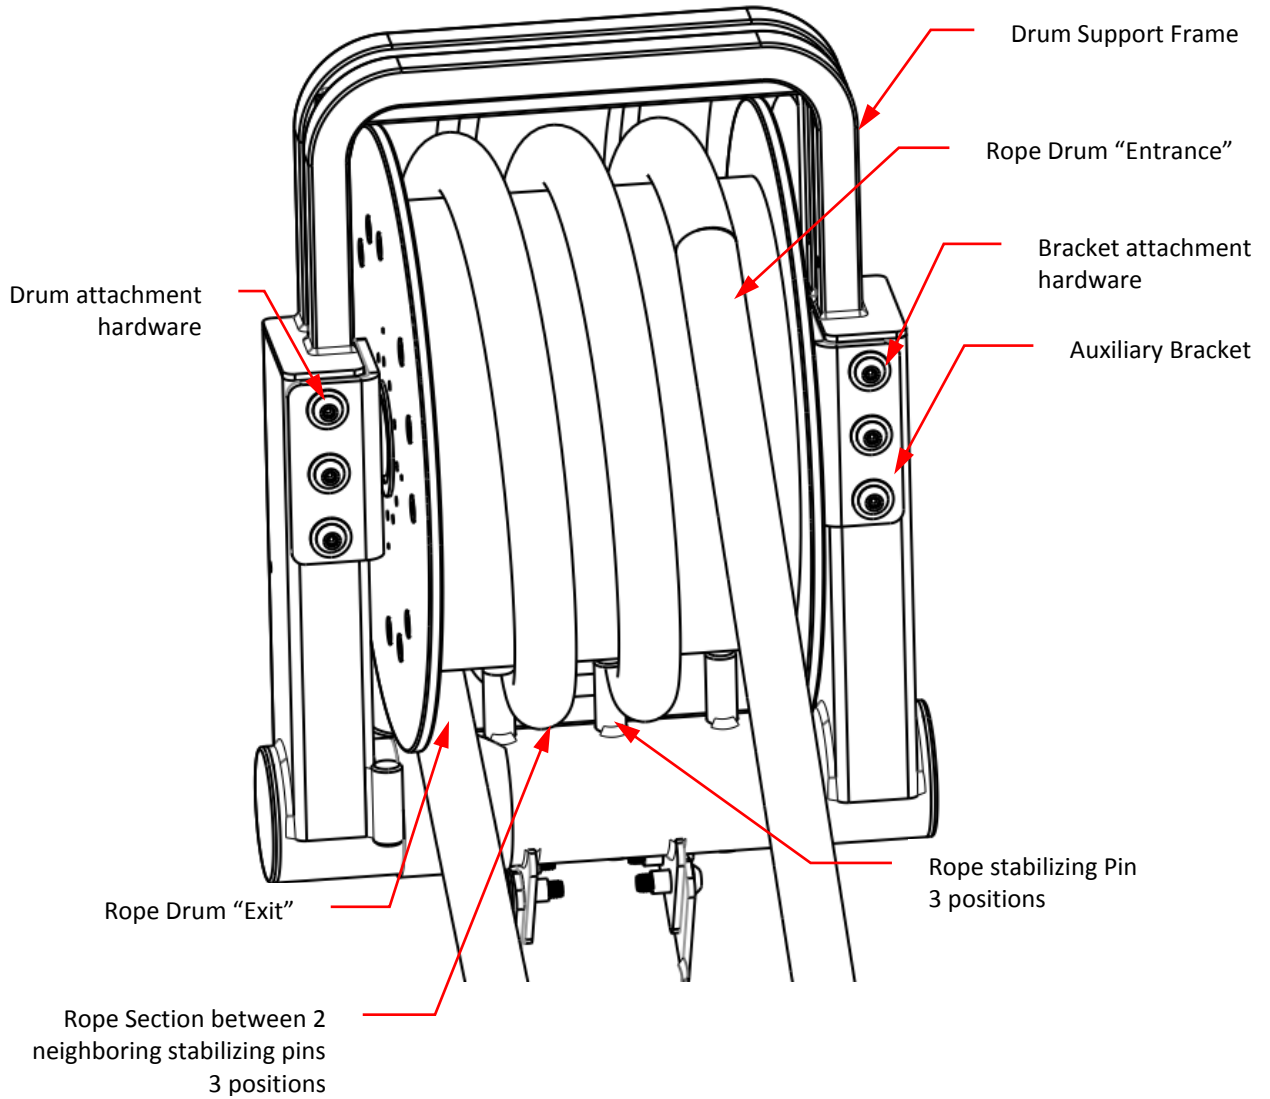

Figure 1: Rope Drum Overview
- 2-2** Position the drum in the frame, connect sensor cable and guide the rope between stabilizing pins as shown in Figure 1